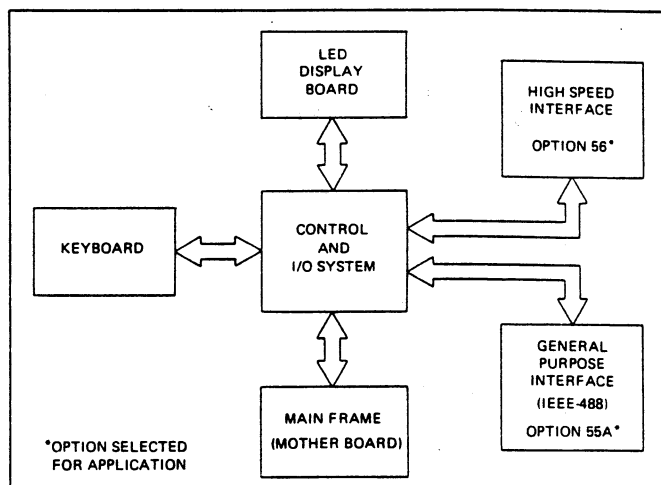

Figure 4.19 - Control and I/O System Distribution
4.4.7.1 The block diagram Figure 4.19, presents the center-position occupied by the Control-I/O System. Physically the Control  $\mu P$  section is configured on PC board 406925 (schematic 721925) located at J8 terminal on the mainframe PCB with bus lines to I/O board 406926 (schematic 721926) located at J7 terminal on the mainframe (PCB 406763). Electrically, the Control and I/O modules operate in unison.